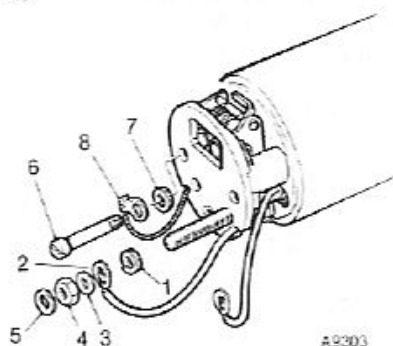

Fig 4. Attaching the pedestal to the coil housing.
- 3 Assemble the 2 BA spring washer (1) (see Fig. 4), and put the terminal stud through 2 BA terminal tag (2), then fit the lead washer (3) and the coned nut with its coned face to the lead washer. (This makes better contact than an ordinary flat washer and nut.) Tighten the 2 BA nut and finally add the end-cover seal washer (5).
- 4 Assemble the pedestal to the coil housing (see Fig. 4) by fitting the two 2 BA pedestal screws (6), and ensure that the spring washer (7) on the left-hand screw (9 o'clock position) is between the pedestal and the earthing tag (8).
- 5 Tighten the screws, taking care to prevent the earthing tag (8) from turning, as this will strain or break the earthing flex. Do not overtighten the screws or the pedestal will crack.